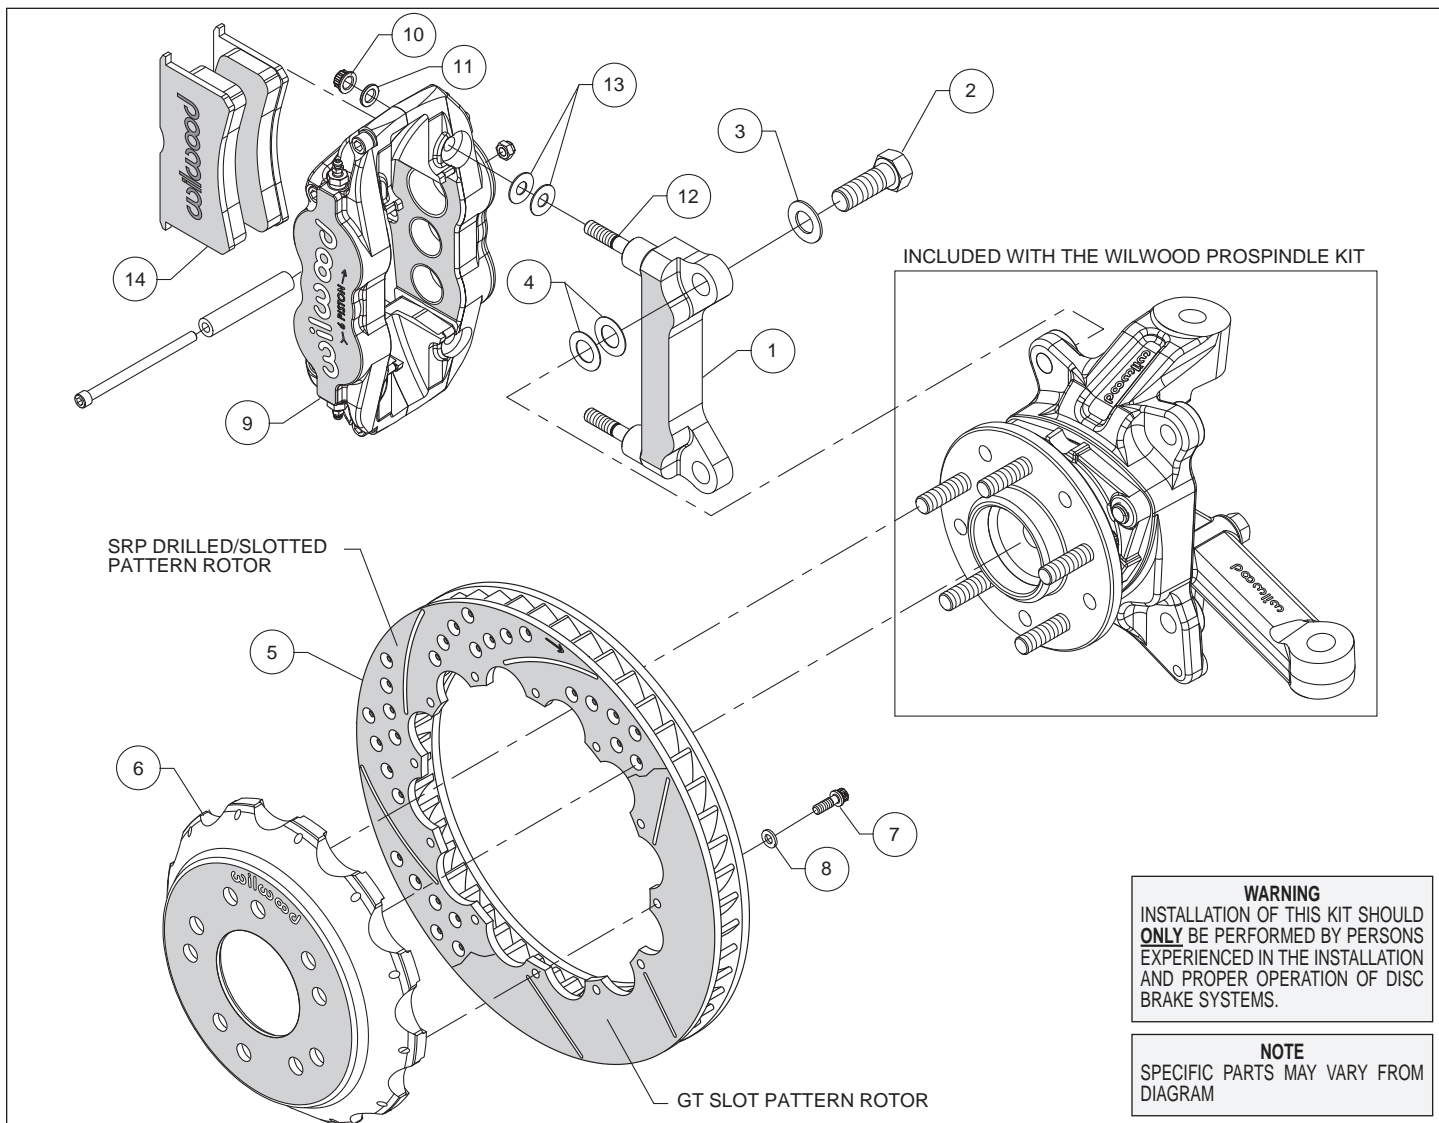
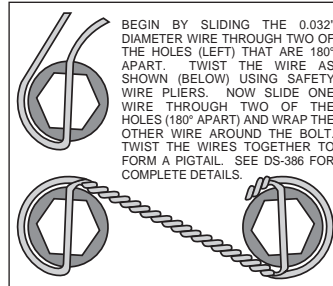

Figure 1. Typical Installation Configuration
Figure 3. Safety Wire Diagram
Assembly Instructions (numbers in parenthesis refer to the parts list and Figure 1 on the preceding pages):
- The caliper mount bracket (1) should initially be installed with clean, dry threads on the mounting bolts. Orient the bracket as shown in Figure 1 and Photo 1 and install using mount bolts (2) and washers (3). Initially place two .024" thick shims (4) on each bolt between the bracket and spindle, Figure 1. Temporarily tighten the mounting bolts. **NOTE:** The bracket must fit squarely against the mounting points on the spindle. Inspect for interference from casting irregularities, machining ridges, burrs, etc. Later, after the caliper alignment has been checked, the mount bolts will be secured using red Loctite® 271.
- Orient the rotor (5) and the hat (6) as shown in Figure 1 and Photo 2. Attach rotor to hat using bolts (7) and washers (8). Using an alternating sequence, apply red *Loctite*[®] 271 to the threads, and torque to 155 **in-lbs**. For an added measure of security, the bolts may be safety wired using standard 0.032 inch diameter stainless steel safety wire as shown in Figure 3. Please refer to Wilwood's data sheet DS-386 (available at www.wilwood.com/Pdf/DataSheets/ds386.pdf) for complete safety wire installation instructions.
- **NOTE:** *This kit contains distinct right and left hand calipers that must be mounted in a specific direction, as described below.* Lubricate the caliper mounting studs (12) with lightweight oil. Initially place two .035" thick shims (13) on each stud between the caliper and the bracket, as shown in Figure 1 and Photo 5. Mount the caliper (9) onto the bracket (1) using lock nuts (10) and washers (11), Figure 1. Ensure that the caliper is mounted so the largest pistons are at the rotor exit end of the caliper, in relation to the direction of rotor rotation. Temporarily tighten the lock nuts and view the rotor through the top opening of the caliper. The rotor should be centered in the caliper, Photo 6. If not, adjust by adding or subtracting shims (4) between the bracket and the spindle. Always use the same amount of shims on each of the two mounting bolts. Once the caliper alignment is correct, remove the bracket mounting bolts one at a time, apply red *Loctite*[®] 271 to the threads, and torque to 140 ft-lb.